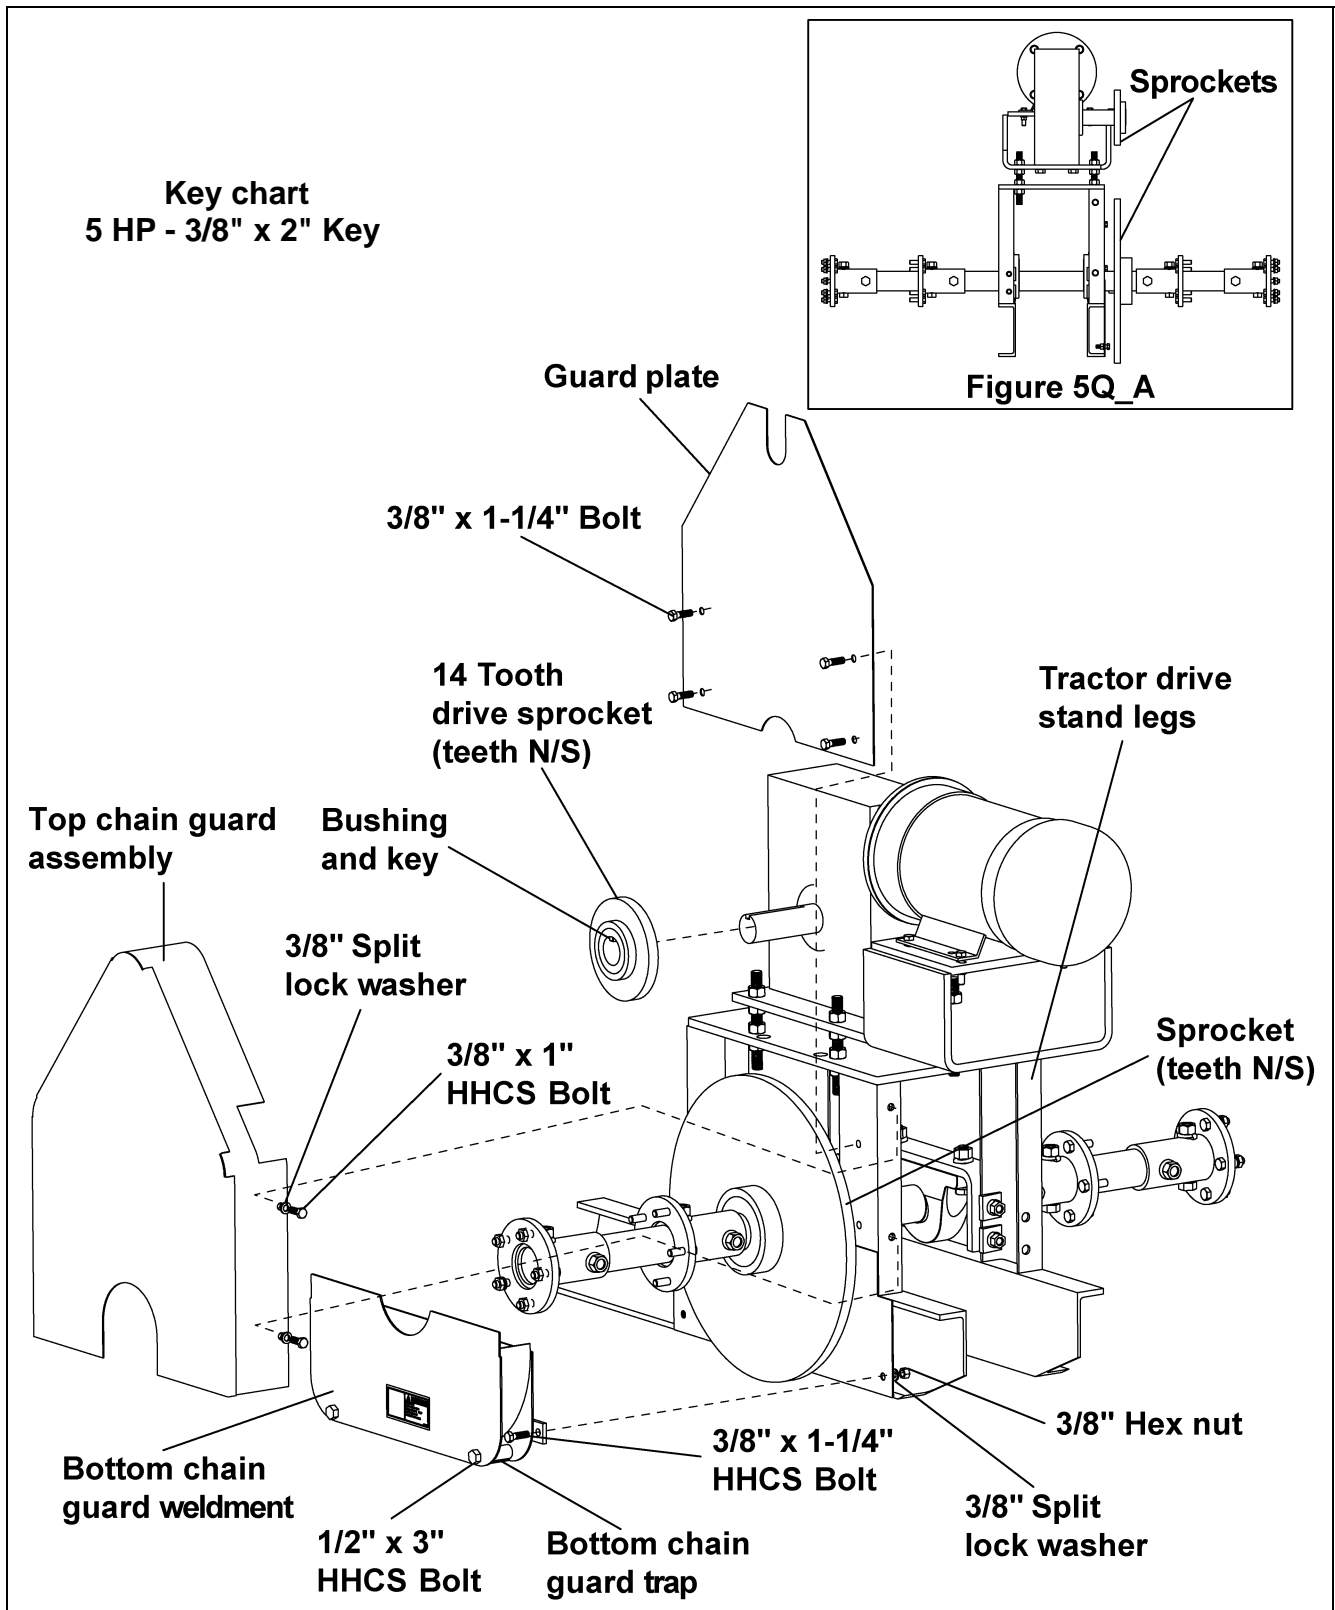

Figure 5Q
- A. Attach the guard plate to the tractor drive stand legs using 3/8" bolts and nuts before attaching the drive sprocket. *(See Figure 5Q on Page 34.)*
- B. Slide the fourteen (14) tooth (teeth N/S) drive sprocket, bushing and key (see key chart on Page 34 for the size key) onto the output shaft of the reducer, make sure both sprockets line up. *(See Figure 5Q and Figure 5Q_A on Page 34.)*
- C. Assemble the bottom chain guard trap to the bottom chain guard weldment using 1/2" x 3" HHCS bolts, 1/2" split lock washers and 1/2" hex nuts. *(See Figure 5Q on Page 34.)*
- D. Attach bottom chain guard weldment to tractor drive stand using 3/8" x 1-1/4" HHCS bolts, 3/8" split lock washers and 3/8" hex nuts. *(See Figure 5Q on Page 34.)*
- E. Attach top chain guard assembly to tractor drive stand using 3/8" x 1" bolts, 3/8" split lock washers and 3/8" hex nuts. *(See Figure 5Q on Page 34.)*